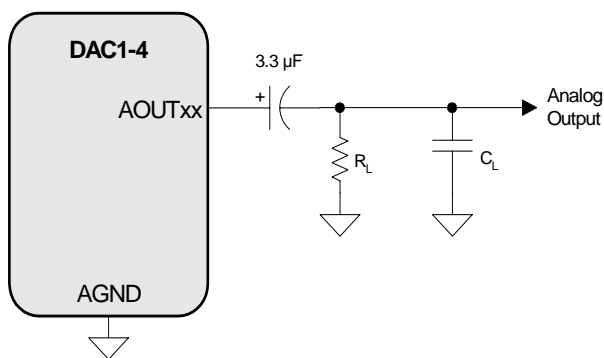

Figure 2. Output Test Load
12. Guaranteed by design. See Figure 2. R_L and C_L reflect the recommended minimum resistance and maximum capacitance required for the internal op-amp's stability and signal integrity. In this circuit topology, C_L will effectively move the dominant pole of the two-pole amp in the output stage. Increasing this value beyond the recommended 100 pF can cause the internal op-amp to become unstable. See Appendix A for a recommended output filter.